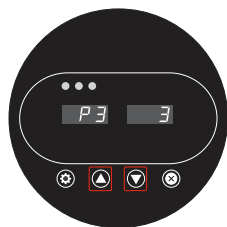

Fig. 13
- Press the up (▲) and (▼) down buttons to select the timer you need, including 1,2 and 3, and the control panel will also show the light quantity as per the timer you set (Fig.13).